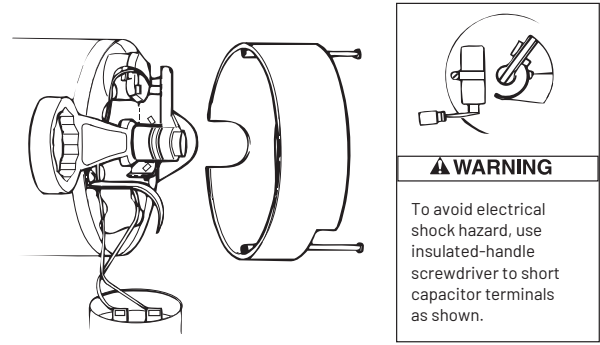

FIGURE 13 – HOLD SHAFT
4. If impeller must be replaced, loosen two machine screws and remove motor canopy (Figure 13).
5. **WARNING CAPACITOR VOLTAGE MAY BE HAZARDOUS.** To discharge capacitor, hold insulated handle screwdriver **BY THE HANDLE** and short capacitor terminals together (Figure 13). Do not touch metal screwdriver blade or capacitor terminals. If in doubt, consult a qualified electrician.